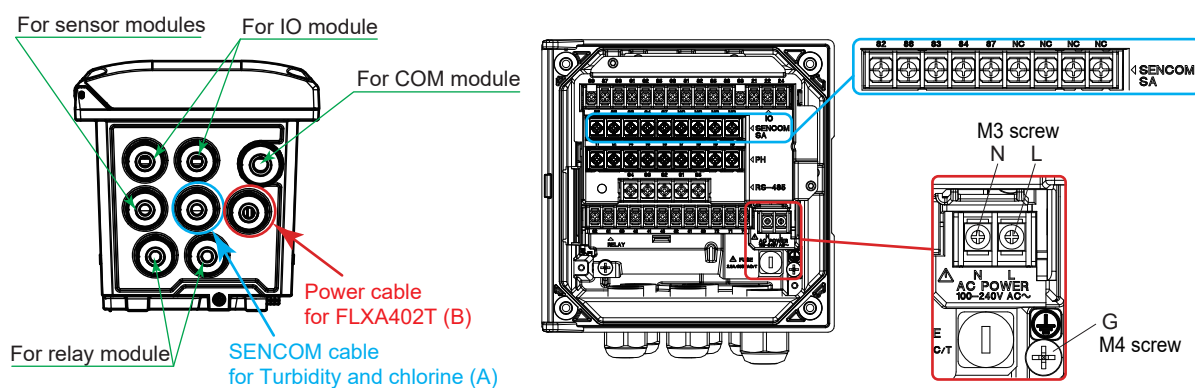

Figure 51 Wiring FLXA402T side
Fasten the M3 screw (L, N) (Figure 51) with the tightening torque of 0.6 N·m, M4 screw (G) with 1.4 N·m.
4.1.3 Power supply cable (C)
This instrument does not have a power supply switch. The power supply line must be equipped with a double switch. Grounding wiring connected to the smart unit shall satisfy Class D (grounding resistance: 100 Ω or less). Fasten the M3 screw (L, N) with the tightening torque of 0.6 N·m, M4 screw (G) with 1.4 N·m. (Figure 51)